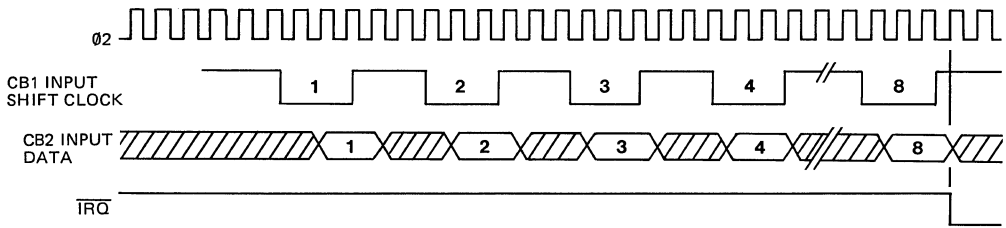

Figure 30. Shift In - External CB1 Clock Control Timing
**Shift In – External CB1 Clock Control (011)** – In this mode CB1 serves as an input to the Shift Register. In this way, an external device can load the Shift Register at its own pace. The Shift Register counter will interrupt the microprocessor after each eight bits have been shifted in. The Shift Register counter does not stop the shifting operation. Its function is simply that of a pulse counter. Reading or writing the Shift Register resets the Interrupt Flag and initializes the counter to count another eight pulses. Note that data is shifted during the first  $\emptyset_2$  clock cycle following the positive-going edge of the CB1 shift pulse. For this reason, data must be held stable during the first full cycle following CB1 going high. Refer to Figure 30.